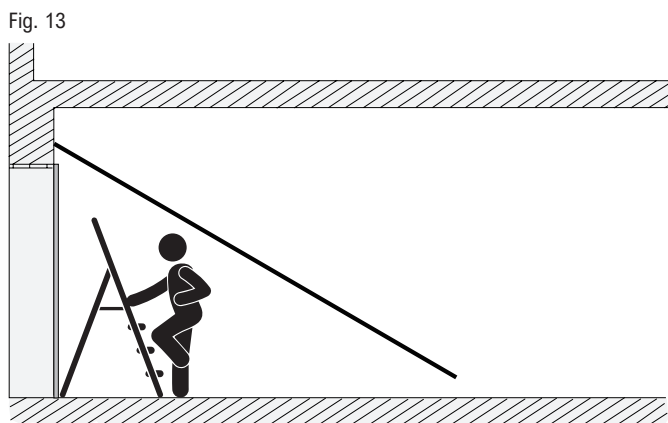

Fig. 13
- 6) Lift the fixed bracket at the end of the rail to the wall bracket previously anchored (Fig. 13).